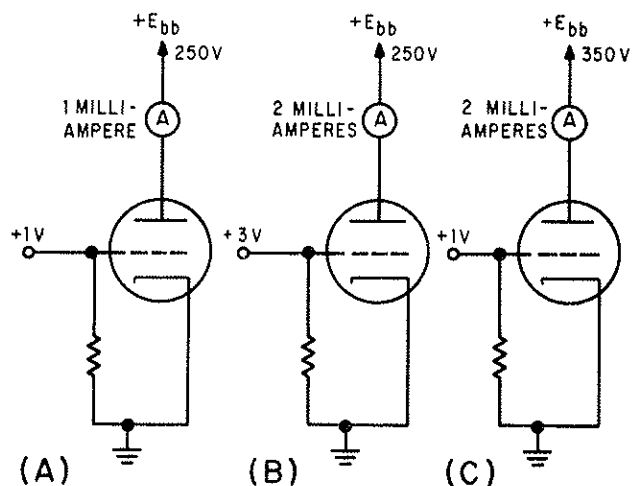

Figure 1-28.—Obtaining gain and transconductance.
While this may sound complicated it really isn't. Look at figure 1-28. Here you see in view (A) a triode with a +1 volt input signal. At this grid voltage, current through the tube is at 1 milliampere. If the input voltage is raised to +3 volts, current through the tube increases to 2 milliamperes. The change in E_g (ΔE_g) is then 2 volts. This is shown in view (B). Suppose that the grid voltage is returned to +1 volt, and plate voltage is increased until the ammeter in view
Examine figure 1-28, views (A) and (B), again. In view (A), the input voltage is +1 volt. At +1 volt E_g , the plate current is equal to 1 milliampere with a plate voltage of 250 volts. In view (B), the input voltage (E_g) is raised to +3 volts. ΔE_g , as before, is equal to 2 volts. This increase in grid voltage causes plate current to increase to 2 milliamperes. The change in plate